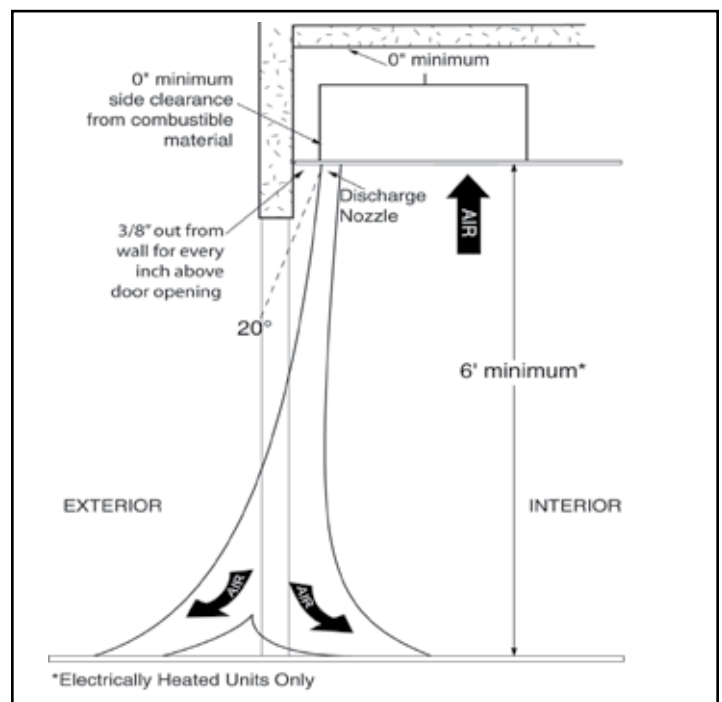

Figure 1
- When determining the mounting location for the unit(s), make sure that nothing interferes with the curtain of air developed when the discharge vanes are directed from 0° to 20° toward the door opening. If the air stream strikes any obstruction (the top edge of the doorway, a door opening device, etc.), the effectiveness of the unit will be greatly reduced. **See Figure 1.**